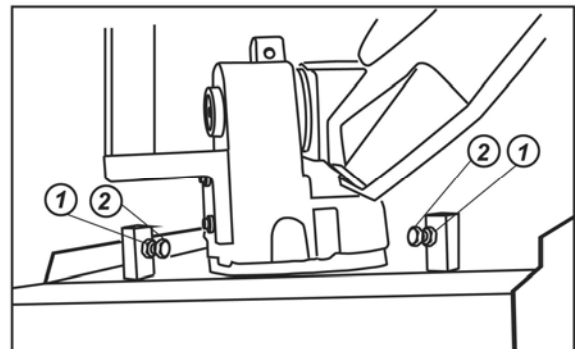

Fig.12
- Release the hex nut (1 Fig.12).
- Screw in or out the hex bolt (2 Fig.12) to adjust.